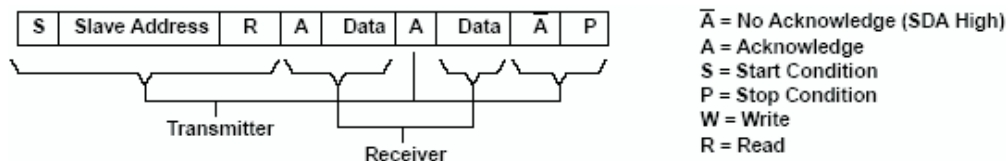
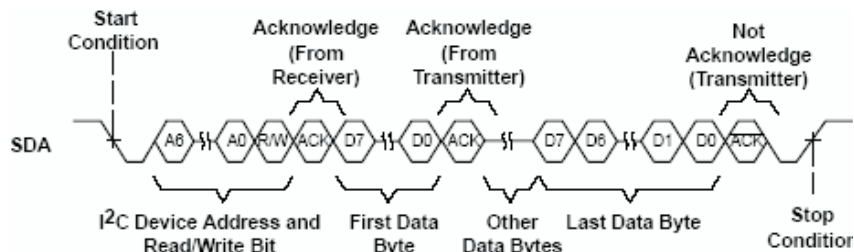

Figure 27. I2C Read Cycle
Figure 28. Multiple Byte Read Transfer
During a read cycle, the slave receiver acknowledges the initial address byte if it decodes the address as its address. Following this initial acknowledge by the slave, the master device becomes a receiver and acknowledges data bytes sent by the slave. When the master has received all of the requested data bytes from the slave, the not acknowledge (A) condition is initiated by the master by keeping the SDA signal high just before it asserts the stop (P) condition. This sequence terminates a read cycle as shown in Figure 27 and Figure 28. See the Reading from the SN75DP129, an example section for more information.
The SN75DP129 operates using a multiple byte transfer protocol similar to Figure 28. The internal memory of the SN75DP129 contains the phrase *DP-HDMI ADAPTOR<EOT>* converted to ASCII characters. The internal memory address registers and the corresponding values can be found in Table 3.